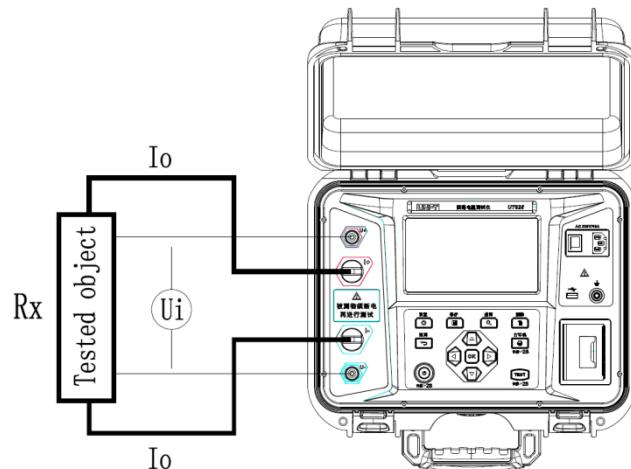

Figure 8.1 Diagram of the principle of measuring low resistance
**Measurement principle:** The Tester outputs a constant current ( $I_o$ ) to excite the measured object ( $R_x$ ), so that the both ends of the tested object generates a voltage ( $U_i$ ) and input it to the Tester, then the Tester process and calculate it, finally, the resistance value (i.e., the low resistance value) of the tested object is obtained, as shown in Figure 8.1.